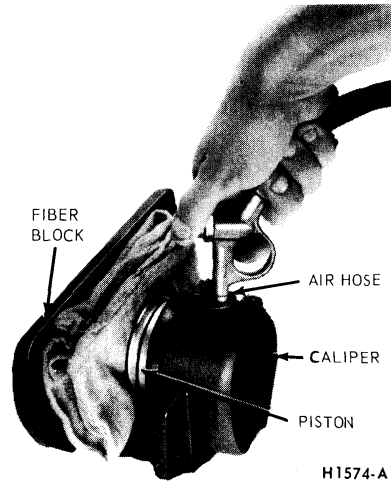

FIG. 29 — Removing Piston From Caliper
6. Apply air pressure to the fluid port in the caliper as shown in Fig. 29 to remove the piston. Place a cloth